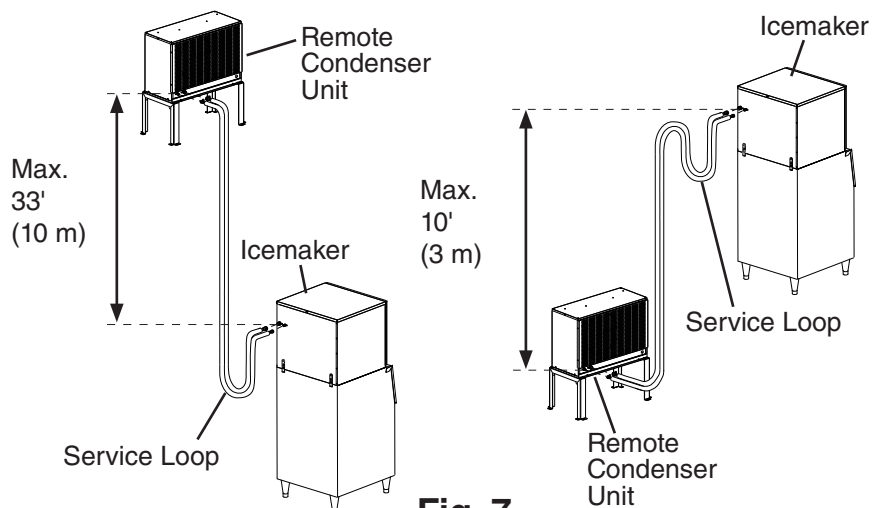

Fig. 7
- The maximum vertical distance between the remote condenser unit and the icemaker is 33' (10 m) above or 10' (3 m) below the icemaker. These distances are measured fitting to fitting. See Fig. 7.